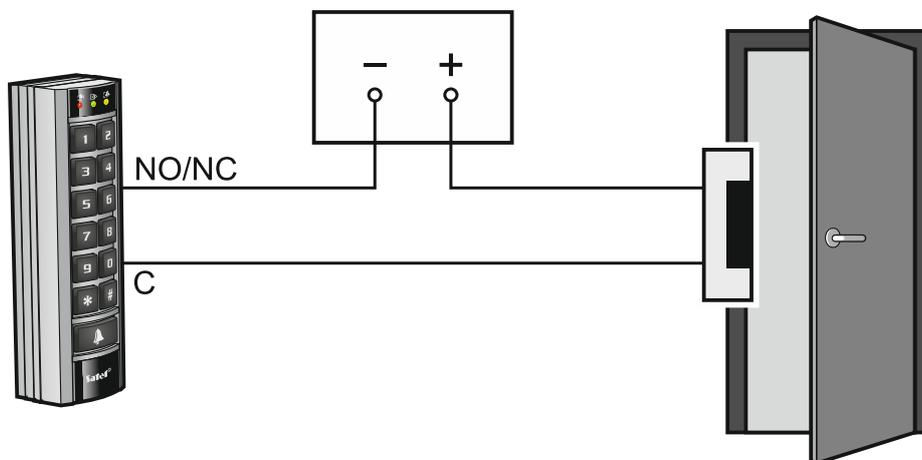

Fig. 4. Connecting the actuator to the keypad.
7. If the keypad is to control an electric strike, electromagnetic lock or another door actuator, connect this device to the relay output as shown in Fig. 4. Depending on the device type, use the following wires: